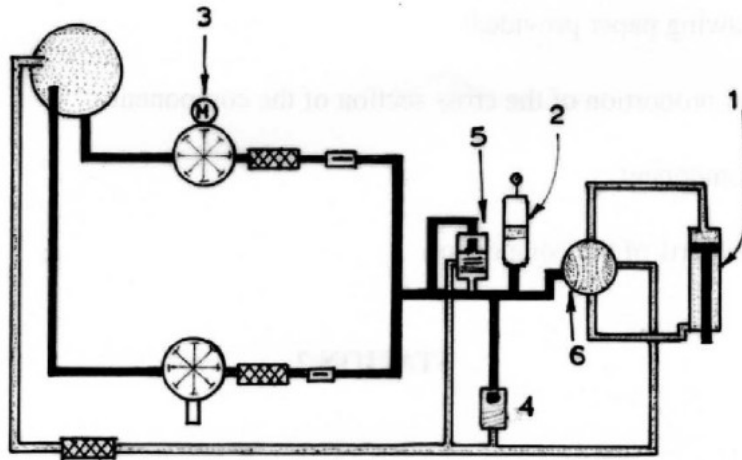

Figure 2
- (b) **Figure 2** shows a basic hydraulic system. Identify the components labelled 1 to 6. (3 marks)
Using the template, tools, and materials provided, make the aircraft ram air scoop shown in figure 2. (10 marks)